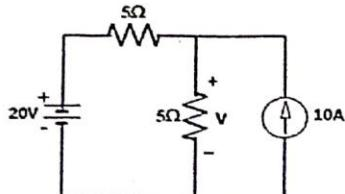

Figure 3
- b. Using Thevenin's theorem, find the voltage 'V' in the circuit shown in Figure 3. **5M**